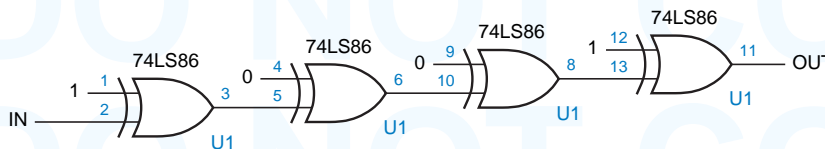

Figure X5.12
5.12 Estimate the minimum propagation delay from IN to OUT for the circuit shown in Figure X5.12. Justify your answer.
- 5.13 Determine the exact maximum propagation delay from IN to OUT of the circuit in Figure X5.12 for both LOW-to-HIGH and HIGH-to-LOW transitions, using the timing information given in Table 5-2. Repeat, using a single worst-case delay number for each gate, and compare and comment on your results.